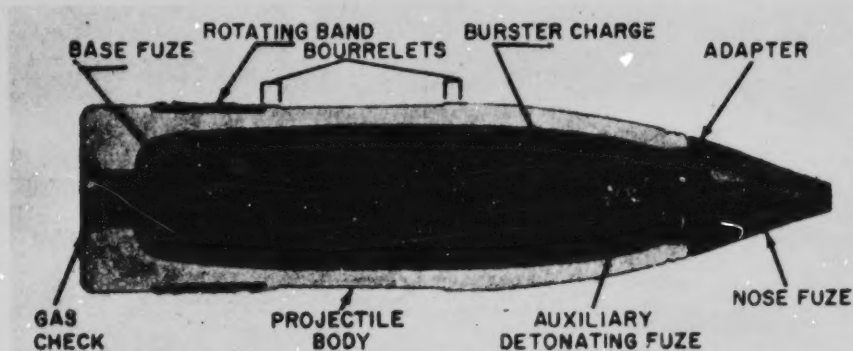

Figure 3-7.—Typical antiaircraft common projectile, sectional view.
c. Antiaircraft common (AAC) (Fig. 3-7) projectiles are equipped with fuzes that detonate either upon impact, or a set time after firing. These projectiles can be used against surface or land targets.